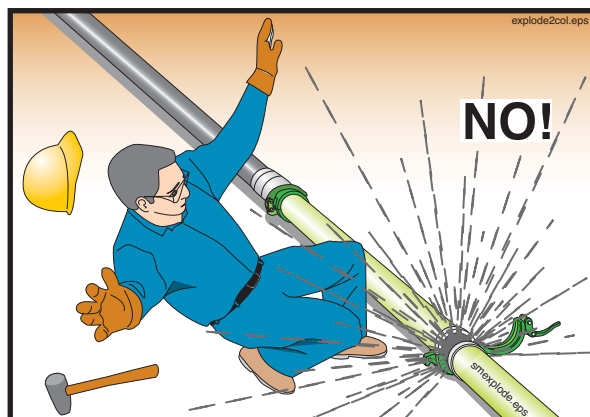

Figure 52
- 15.6** **WARNING** Never open a pressurized pipeline (Figure 52). The pump operator must release the pressure before you open the line. If the line is pressurized with compressed air, let the operator release the pressure and verify that the air has escaped before you proceed.